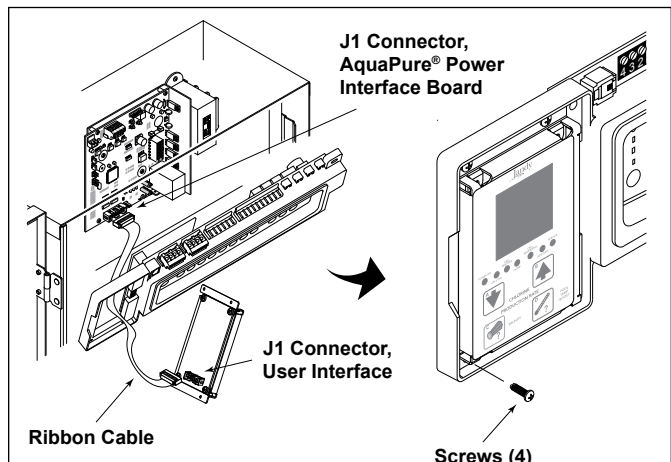

Figure 7. Chlorine Generator User Interface Installation
3. Remove the top two (2) middle screws that secure the cover plate to the power center. Remove the cover plate.
4. Remove the four (4) screws that secure the user interface assembly to the bezel. Remove the user interface.
5. Disconnect the ribbon cable (16-pin J1 connector) from the back of the user interface board. See Figure 7.
3. Remove the top two (2) outer screws that secure the bezel plate assembly to the power center.
4. Fold down the AquaLink® RS support plate and expose the AquaPure power interface board. See Figure 7.